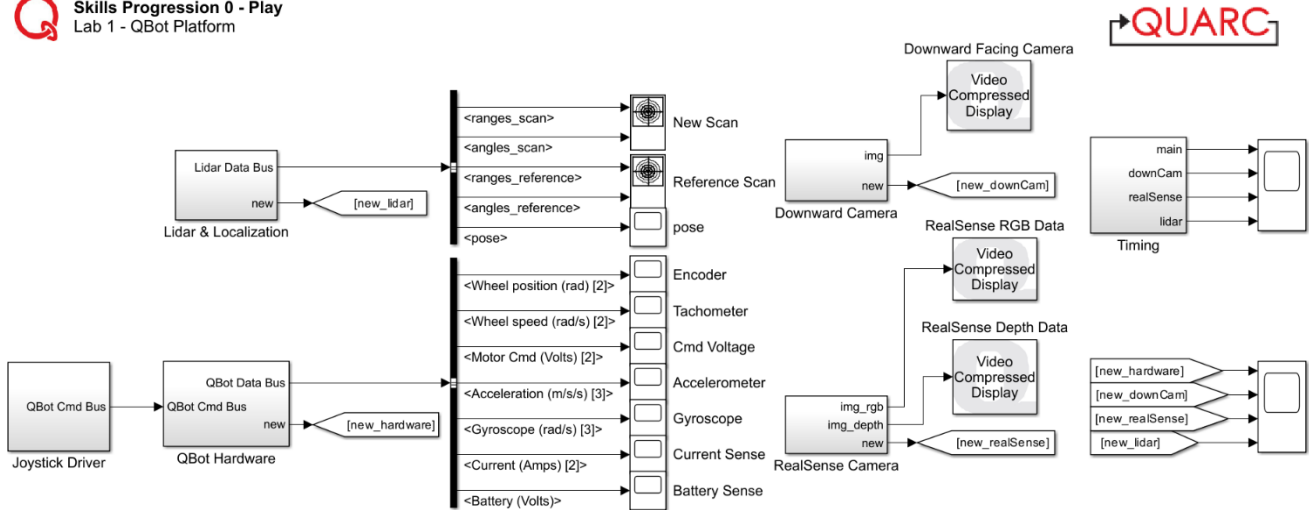

Figure 3. Lab 1 Play Simulink Model
4. Open the Simulink Model `play.slx`, as shown in Figure 3. Configure the model so that it can be deployed to the QBot Platform: